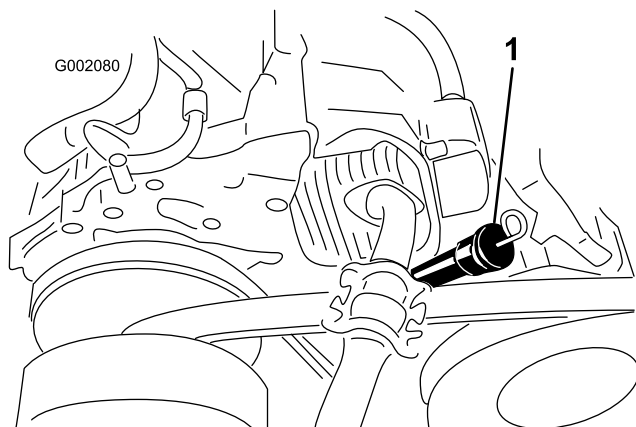

Figure 16
3. Use a rag to clean around the fill spout (Figure 16) so that dirt cannot fall into the spout and damage the engine.
4. Remove the oil dipstick and wipe the end clean (Figure 16).
5. Slide the oil dipstick into the fill spout fully seating it (Figure 16).
8. Install the oil dipstick and firmly seat it (Figure 16).